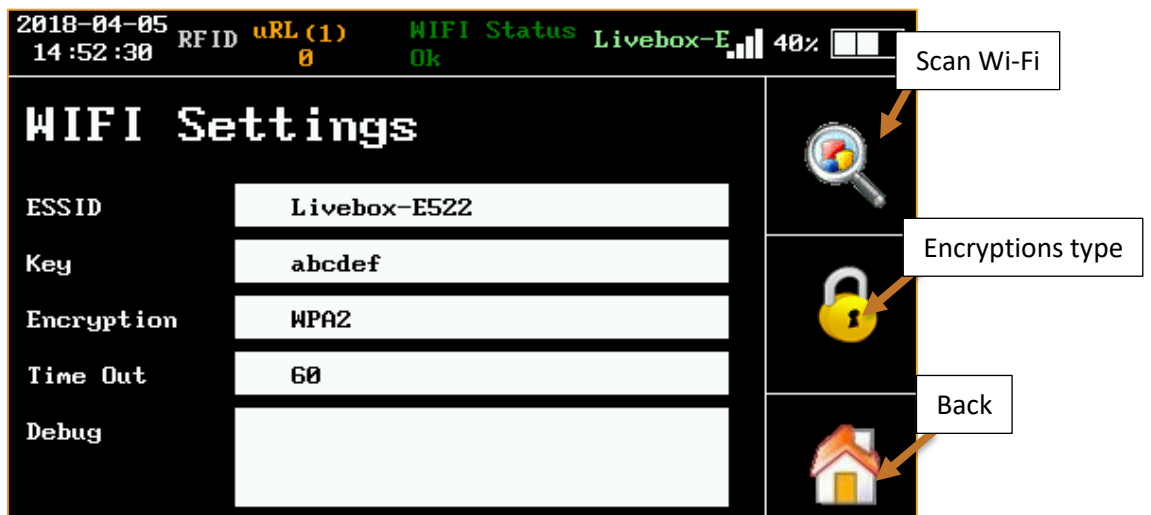

Figure 57 : Wi-Fi settings
- “LM” (on the *Figure 56* above) and “Debug” (on the *Figure 57* below) show information for technical support.